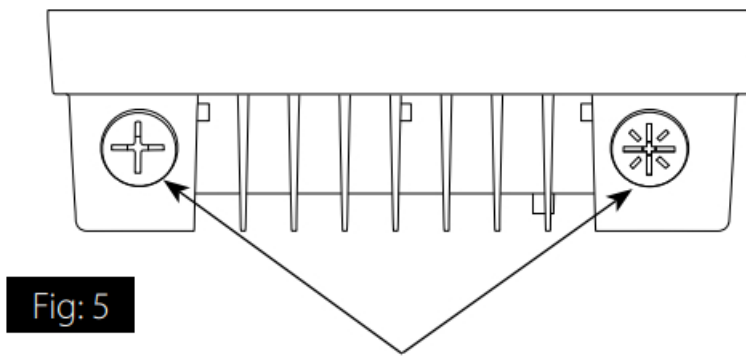

Fig: 5
1. Remove Selector Switch Caps by turning counterclockwise using a flat head screwdriver (Fig. 5).